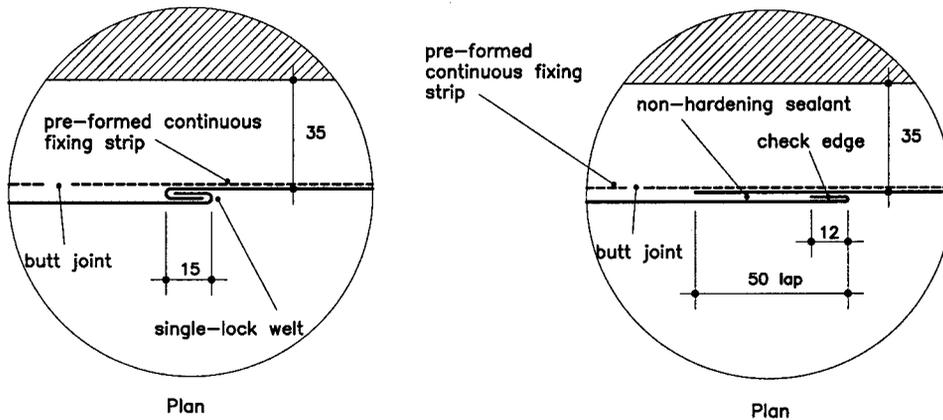

Fig 12b
* Joints in cover flashings should be at 2m maximum centres. They are made with lapped joints: either 150mm as shown; or 50mm with a check and sealed (see Fig 12b).
Joints in cover flashings should be at 2m maximum centres. They can be made with lapped joints: either 150mm or 50mm with a check and sealed; or with single- or double-lock welts, according to exposure (see Figs 12b, 11a, 11b and 11c). The return folds of the welts are formed before the cover flashing is bent to shape. Double-Lock welts will be difficult to form in this situation.